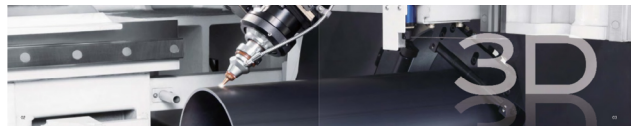

Fig. 6.a.3
- 3D laser cutting. The possibility of setting the cutting head below 45 degrees and then rotating it makes it possible to cut entirely in 3D. (Fig. 6.a.3)